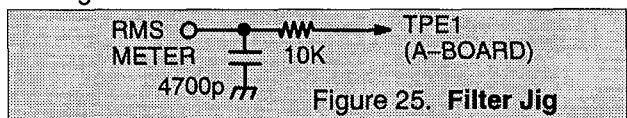

Figure 25. Filter Jig
2. Connect the RMS Meter with filter jig as shown in Figure 25.